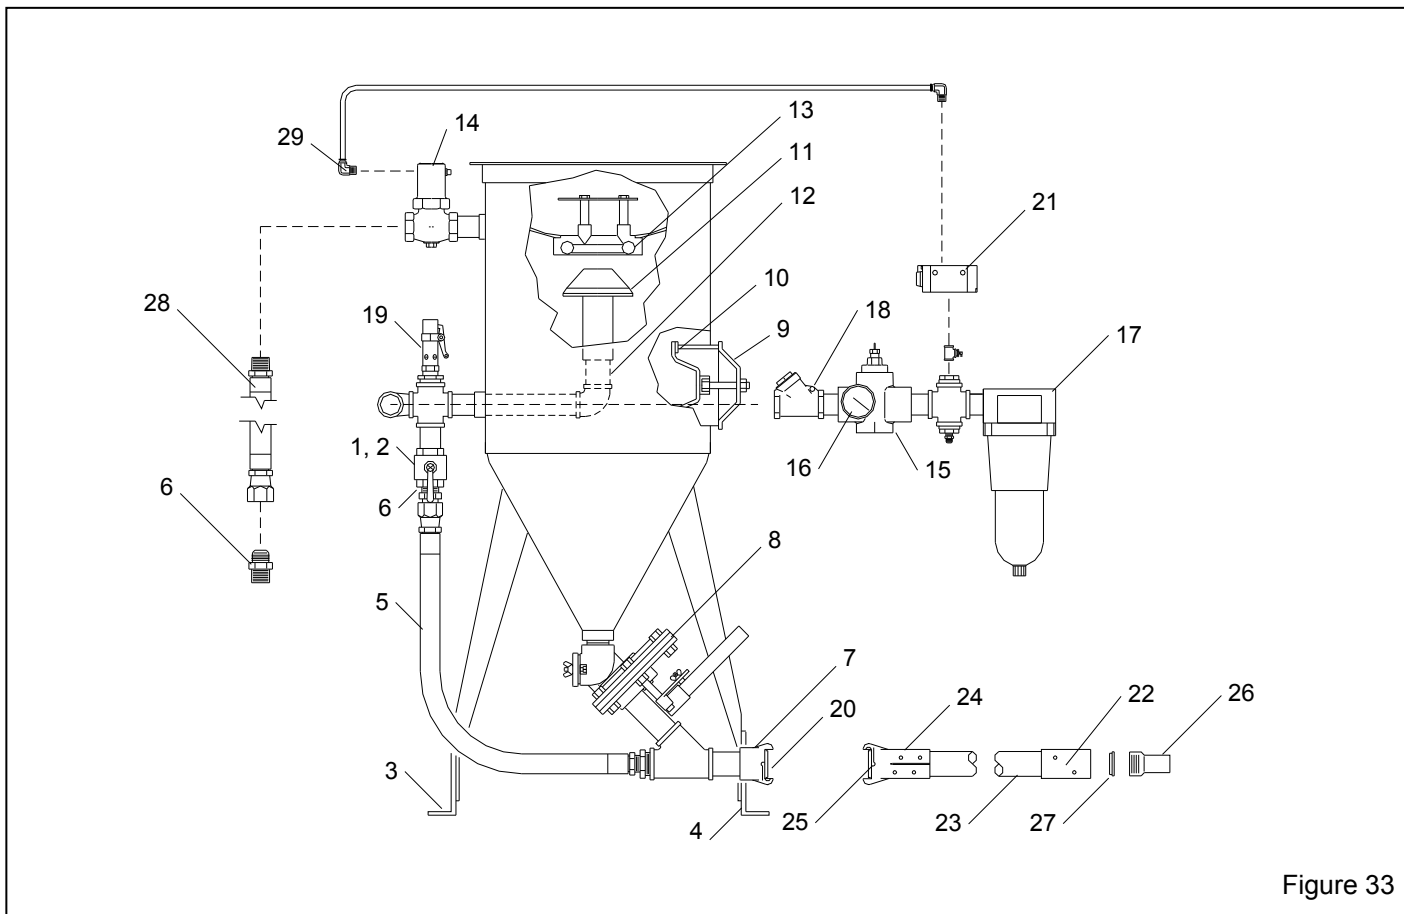

Figure 33
9.7 Blast Machine and Accessories, Figure 33